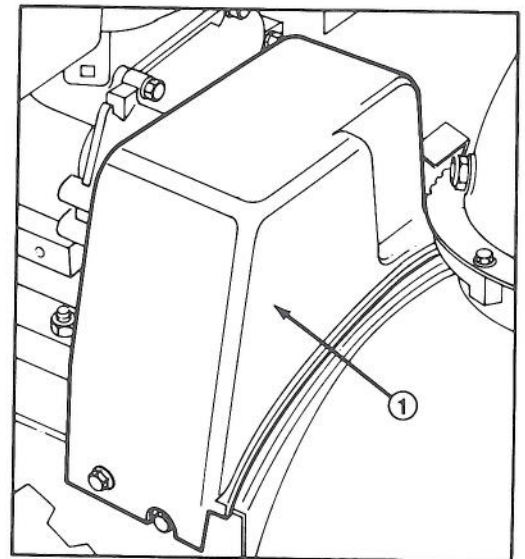

Figure 23
2. Remove two thread forming screws holding belt cover in place, and set belt cover aside (Fig. 23).
3. Remove auger drive belt from engine pulley and large auger/impeller pulley (Fig. 23).
2. Remove two thread forming screws holding belt cover in place, and set belt cover aside. (Fig. 23).